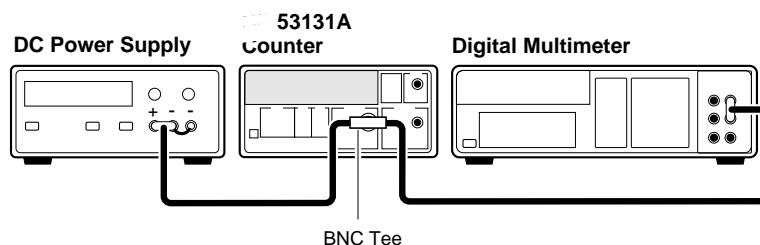

Figure 2-1. Gain Calibration Setup
- 4 Connect the Counter, dc power supply, and multimeter as shown in Figure 2-1.